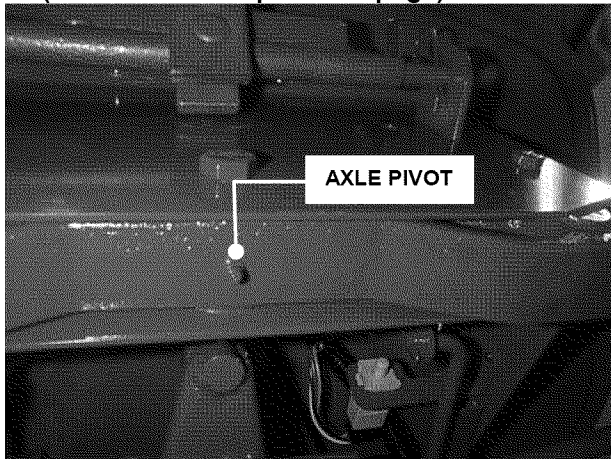

FIGURE 3.8
The following components on the Hydro Rider are equipped with grease fittings and require periodic lubrication. Apply General Purpose grease with a grease gun. To locate fittings, See Figures 3.8, 3.9, 3.10, 3.11 and 3.12.
1. Front axle pivot, 2-3 shots. See Figure 3.8.